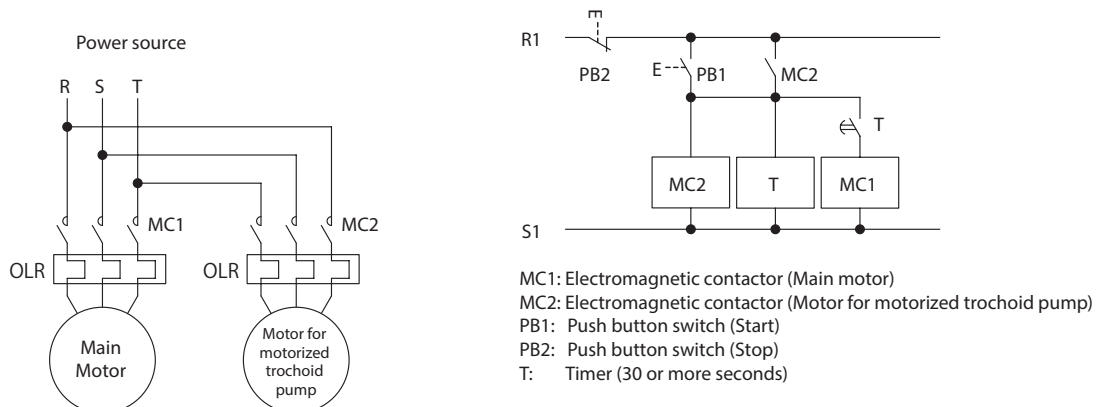

Figure 6-5 Motorized Trochoid Pump Circuit Diagram
- (2) For motorized trochoid pump wiring, see figure 6-5. Wire R-U, S-V, T-W. The pump motor rotates in the specified direction. (For Japanese domestic standard specifications. Consult with us for special specification, such as overseas specifications and motors not manufactured by Sumitomo.)
- (3) Between the motor for the motorized trochoid pump and main motor, equip the interlock that satisfies the following two functions. (See figure 6-5)
- (4) To ensure good lubricating conditions, start the motorized trochoid pump at least 30 seconds before the main motor starts.